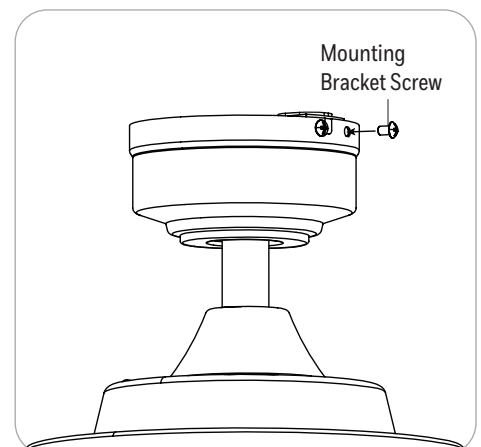

Figure 5.3
- Secure the canopy with the two previously removed mounting bracket screws. Tighten all the mounting bracket screws securely (Figure 5.3).